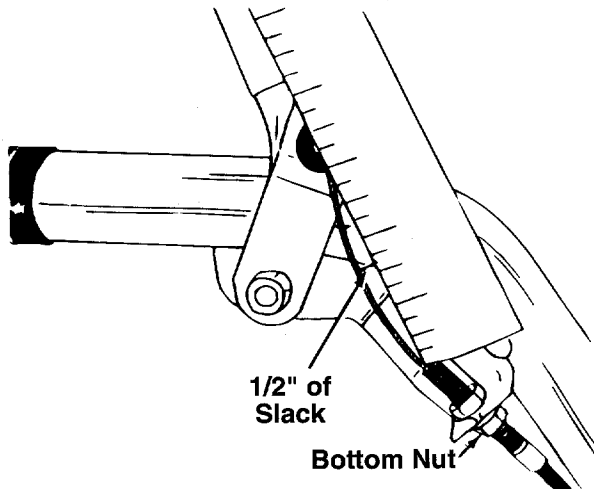

FIGURE 9.
18. With the clutch lever released (in the “up” position), adjust the bottom nut at the cable bracket so there is 1/2” of slack in the control wire as shown in figure 9. Tighten the upper nut against the bracket. Squeeze the clutch lever against the handle. The control wire should now be straight.